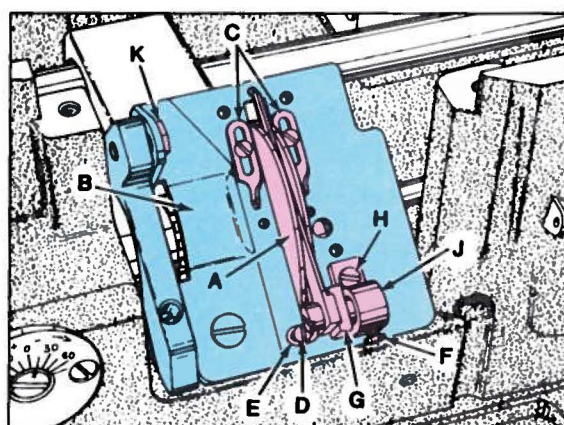

Fig. 21
Looper thread take-up (A, Fig. 21) should be centered, left to right, in cast-off plate (B). It should also be positioned so as the needle bar is descending, the looper thread is cast-off when the point of the needle is even with the bottom of the looper. Adjustment can be made by loosening two screws in take-up, through access hole in cast-off plate, reposition as required and retighten screws. Set adjustable eyelets (C) 1/2 inch (12.7mm) below centerline of their mounting screws.